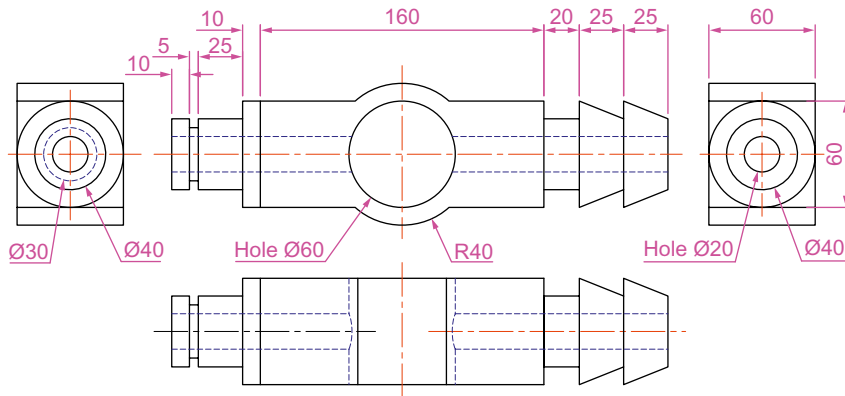

Fig. 18.15 Second example – 3D models dimensions
- Top.** (Fig. 18.15) Construct polyline outlines for the body extrusion and the solids of revolution for the two end parts. Extrude the body and subtract its hole and using the **Revolve** tool form the two end solids of revolution.